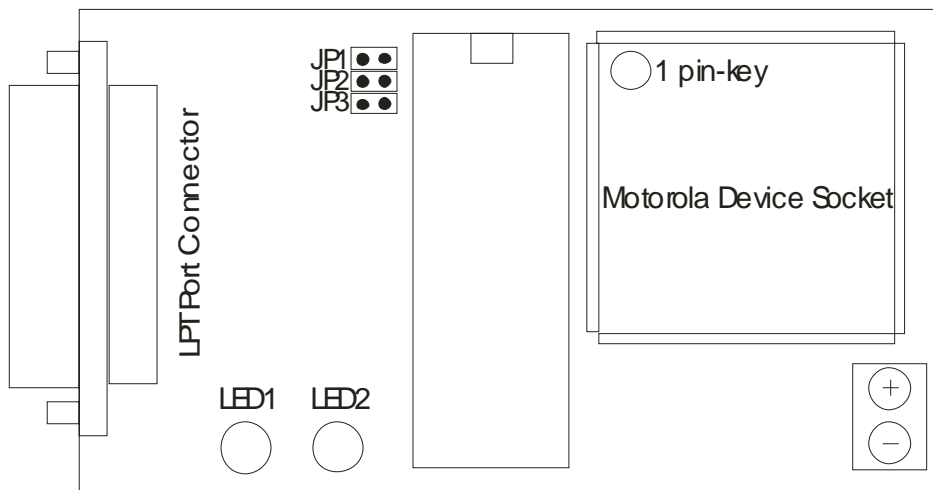

Figure 1. The **HC08-Programmer** board layout
The **HC08-Programmer** includes two two-color LED's and two mode jumper (Figure 1). Color LED's indicates programmer state and external power supply voltage (Table 1, 2).
- Insert jumper JP1 (see Figure 1).
- Insert adaptor to Motorola Device Socket on HC08-Programmer in according to 1 pin-key (see Figure 1).